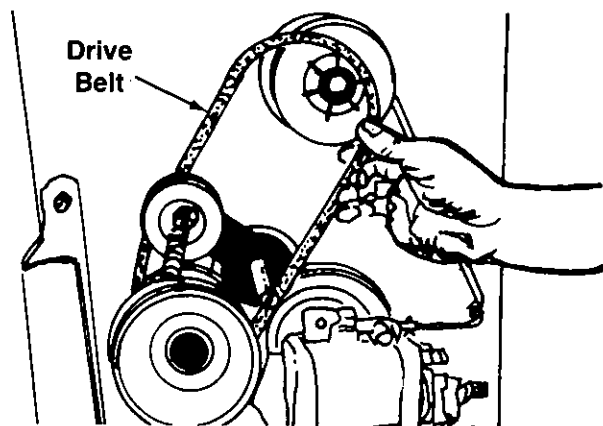

FIGURE 33.
- Remove and replace the "V"-belt. See figure 33.